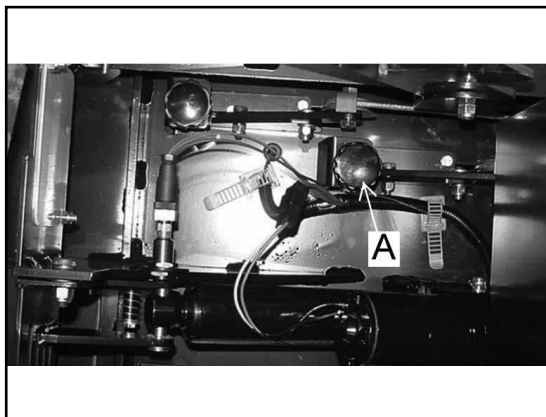

FIGURE 80
The main broom adjustment knob (A) for changing the sweep height to compensate for broom wear is located in front of the machine as shown in figure 80. Turning the knob to the left (counterclockwise) will lower the main broom. When changing the sweep height adjustment, it is recommended the knob be adjusted one turn at a time. After adjusting, recheck the sweep pattern to determine if further adjustment is necessary.